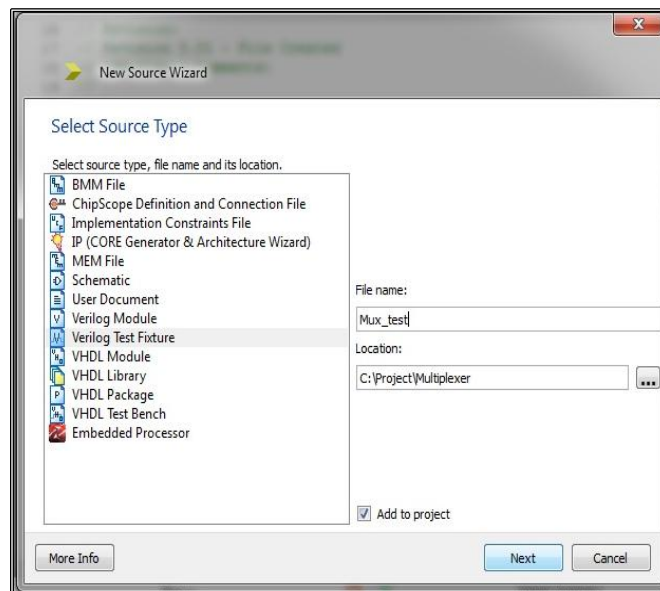

Fig 2.13: Testbench
13. Now you have to write the test bench for checking the functionality of the design. Right click on “Mux.v” and select **New Source**. In the New Source Wizard window select **Verilog Test Fixture** (Fig 2.13). Write “Mux_test” in the **File name** field for the test bench. Click **Next**.